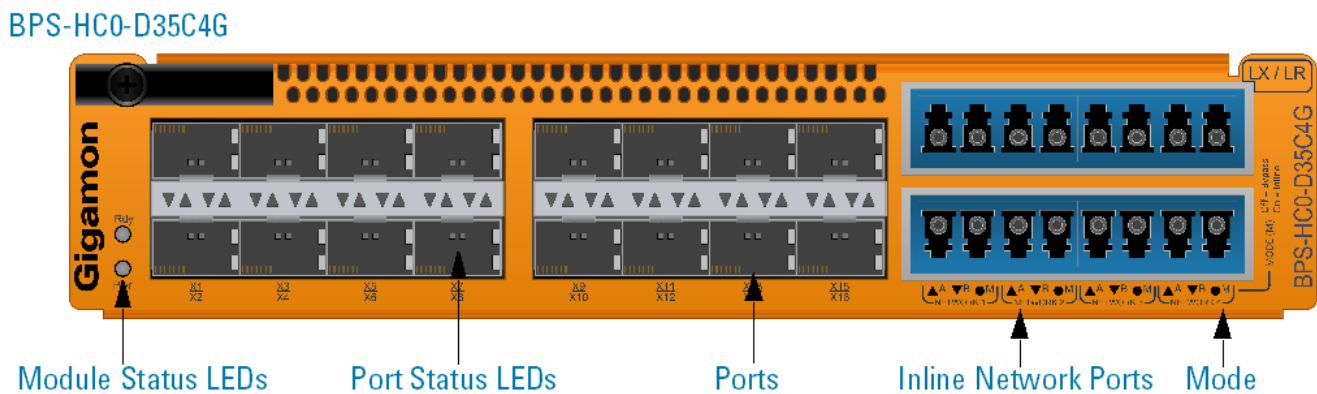

Figure 15 *Bypass Combo Module BPS-HC0-D35C4G***Module Status LEDs**
- Bypass Combo Module with four LX/LR (singlemode) inline network port pairs and sixteen regular SFP+ port cages (BPS-HC0-D35C4G) (Figure 15 Bypass Combo Module BPS-HC0-D35C4G)